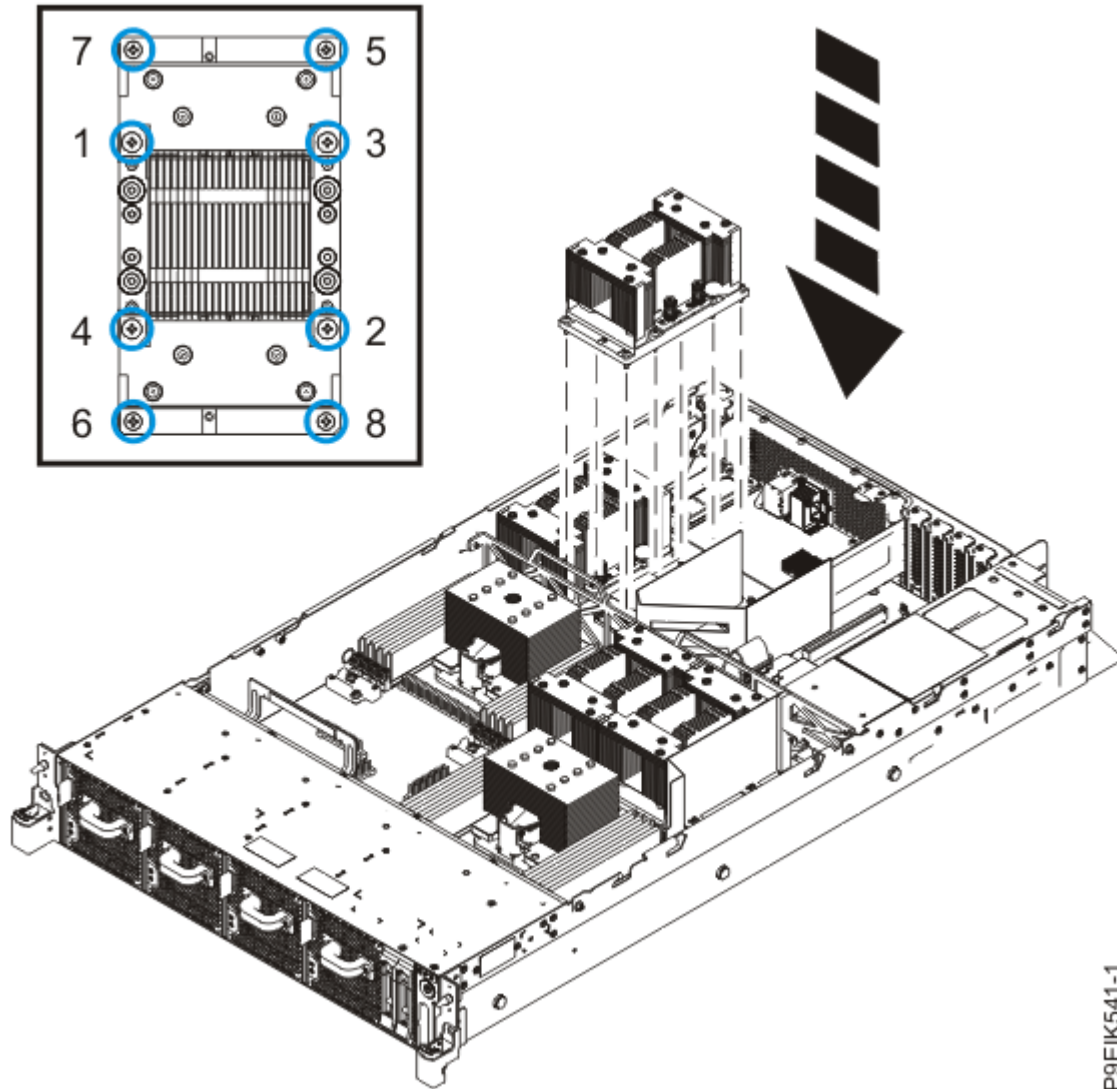

Figure 25. Replacing the GPU and heat sink into system backplane
- Secure the GPU to the system backplane. Use a #2 Phillips head screw driver. Tighten the screws in the sequence that is shown in Figure 25 on page 34.